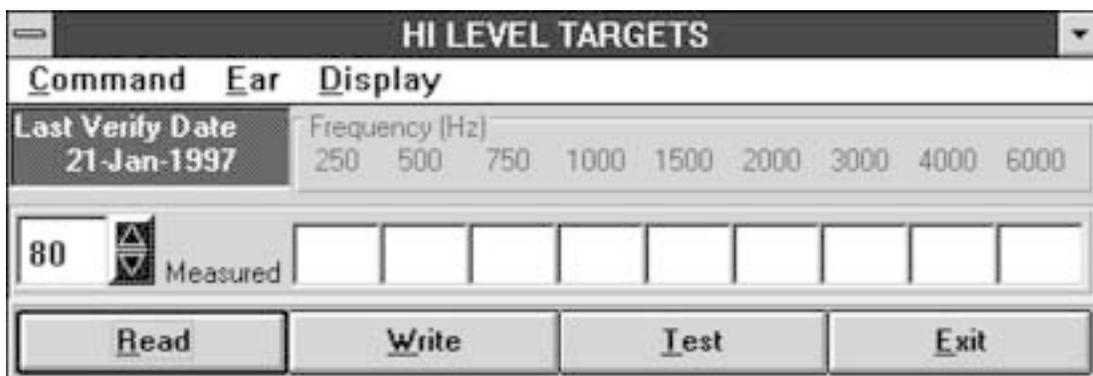

Figure 4.2
1. Click on the hi-level target icon. A new window will open. See Figure 4.2.